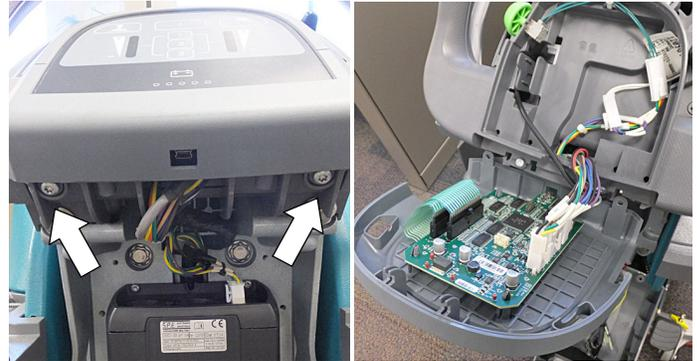

Fig. 2
3. Remove the two upper torque screws from old bezel assembly and lower the bezel as shown (Figure 2)